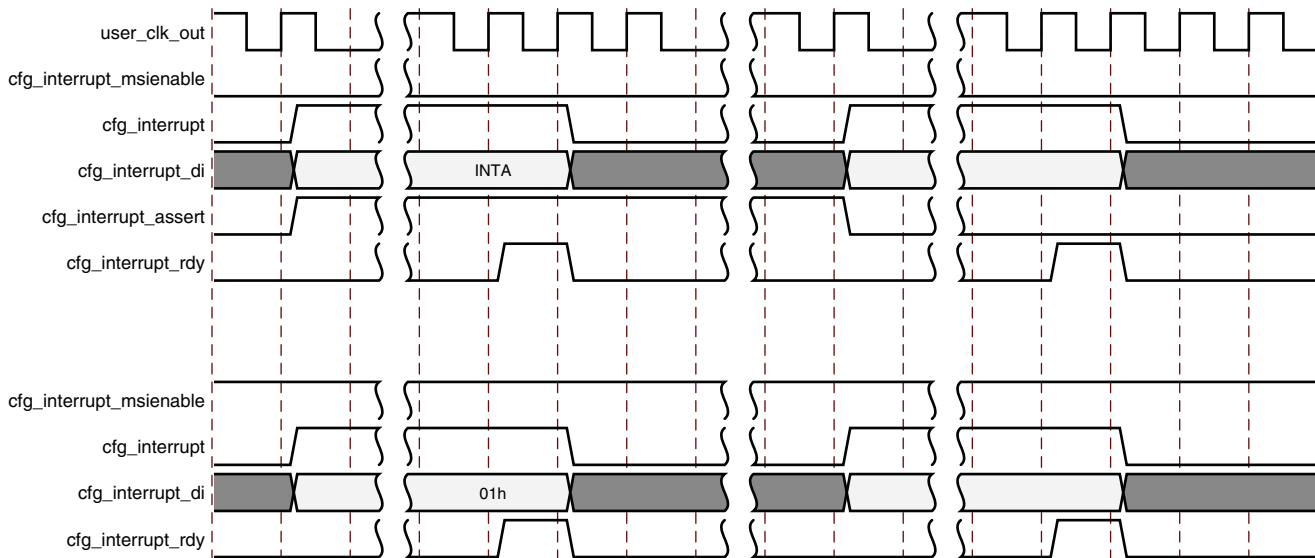

Figure 3-68: Requesting Interrupt Service: MSI and Legacy Mode
- As shown in Figure 3-68, the user application first asserts `cfg_interrupt` and `cfg_interrupt_assert` to assert the interrupt. The user application should select a specific interrupt (INTA) using `cfg_interrupt_di[7:0]` as shown in Table 3-46.
- As shown in Figure 3-68, the user application first asserts `cfg_interrupt`. Additionally the user application supplies a value on `cfg_interrupt_di[7:0]` if Multi-Vector MSI is enabled.